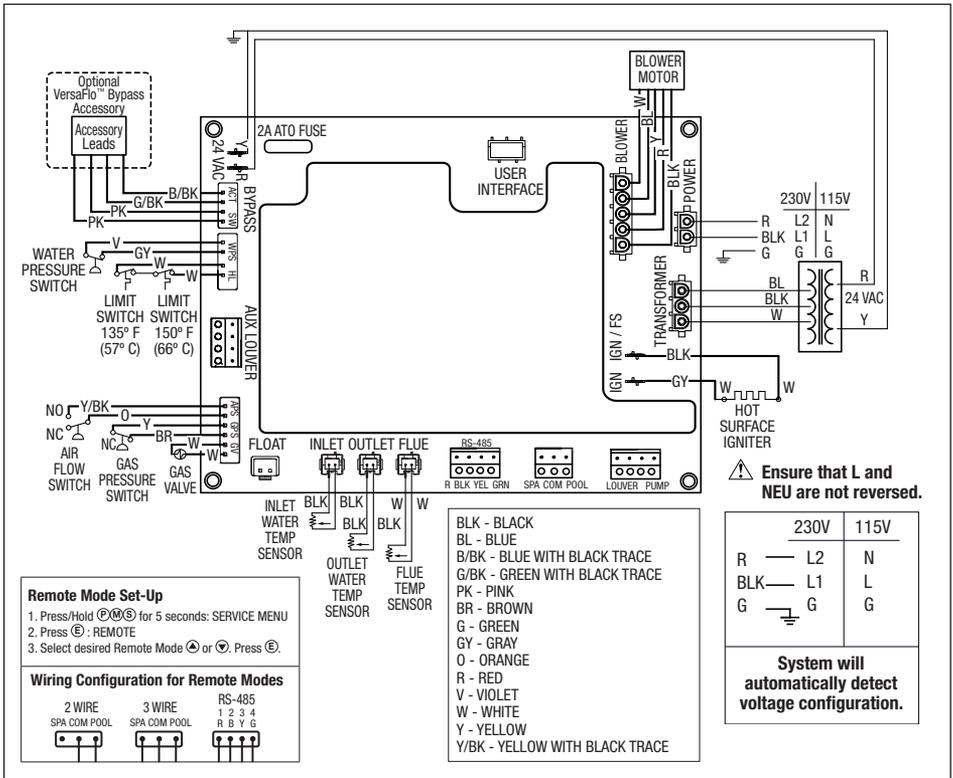

Figure 21. Wiring Diagram for 230/115 VAC Installations
Refer to *Figure 21* for a complete diagram of wiring connections and terminals.
- Connect the wiring from the pool/spa control system to the heater remote control terminal. *See Figure 21*.